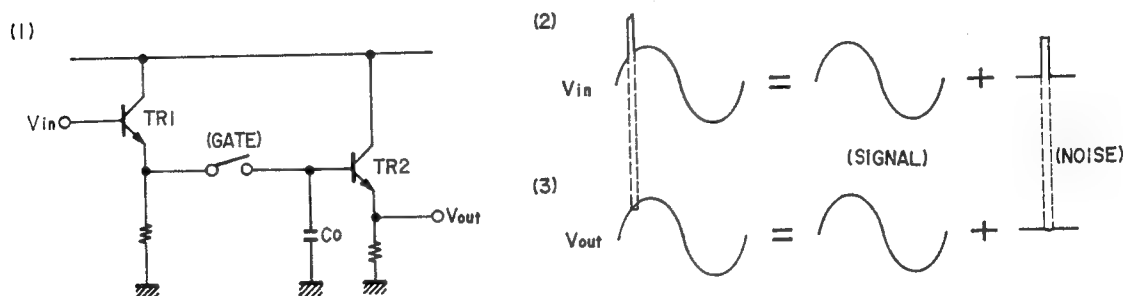

Fig. 19 Basic circuit for pulse noise suppression and wave forms
When the gate is closed as in Fig. 19(1), condenser  $C_o$  is driven by a low impedance (emitter follower TR1) and therefore the output signal is the same as the  $V_{in}$  input.
When pulse noise enters, the gate opens immediately, and condenser  $C_o$  maintains the signal level prior to noise input. When the noise stops, the gate closes and the wave form returns to normal. The output wave form  $V_{out}$  becomes similar to the wave form of Fig. 19(3). In terms of noise alone, it means that the noise (2) is suppressed as in (3).
When the aforementioned circuit is used on the stereo signals, the pilot signal is cut out while the gate is open and distorts the stereo composite signal to generate irritating noise. To prevent this distortion, during the time gate is open a 19 kHz sine wave of the same amplitude and phase as that of the pilot signal is generated from the pilot signal generating circuit (19 kHz sine wave generating circuit). This is added to the holding condenser Fig. 19(1) electric potential while the gate is open and compensates the pilot signal.